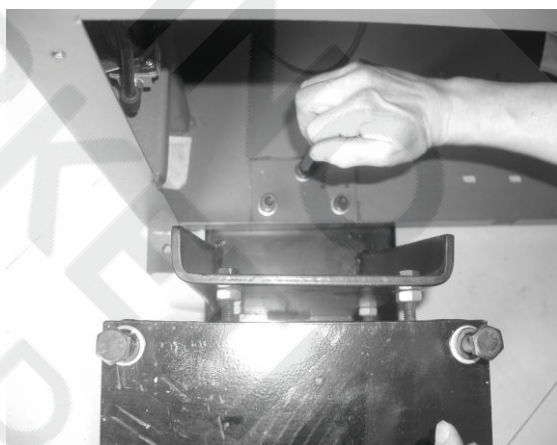

FIG35
6.1.3 Push the platform of the base plate of the base assembly into the body through base plate on the left-back side of the body. Align the thread hole to the reinforce hole and use the bolt and washer to fix. (fig35) .